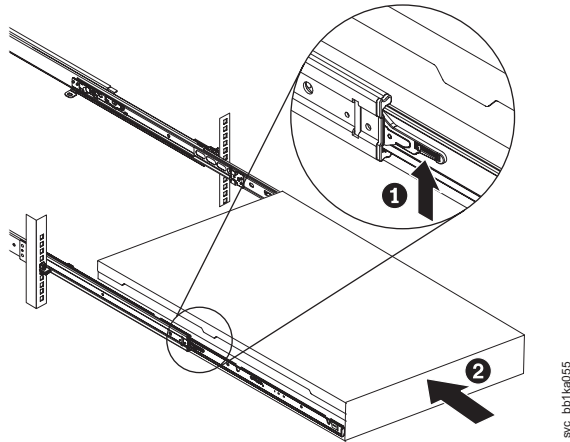

Figure 123. Raising the SAN Volume Controller 2145-CF8 or 2145-CG8 locking levers of the slide rails of the rack
12. Lift the locking levers (**1** in Figure 123 on page 135) on the slide rails and push the server **2** all the way into the rack until it clicks into place.